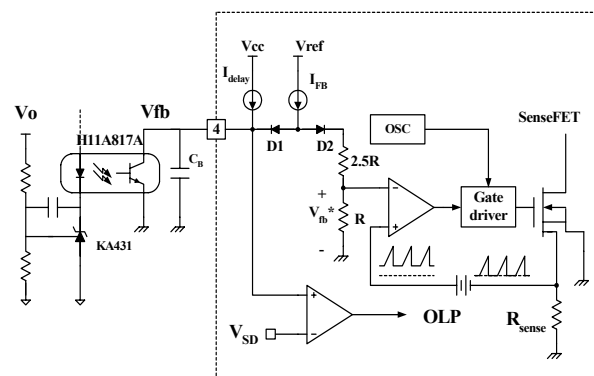

Figure 5. Pulse width modulation (PWM) circuit
2. Feedback Control : FSDM0565R employs current mode control, as shown in figure 5. An opto-coupler (such as the H11A817A) and shunt regulator (such as the KA431) are typically used to implement the feedback network. Comparing the feedback voltage with the voltage across the R_{sense} resistor plus an offset voltage makes it possible to control the switching duty cycle. When the reference pin voltage of the KA431 exceeds the internal reference voltage of 2.5V, the H11A817A LED current increases, thus pulling down the feedback voltage and reducing the duty cycle. This event typically happens when the input voltage is increased or the output load is decreased.
2.1 Pulse-by-pulse current limit: Because current mode control is employed, the peak current through the Sense FET is limited by the inverting input of PWM comparator (V_{fb}^*) as shown in figure 5. Assuming that the 0.9mA current source flows only through the internal resistor ($2.5R + R = 2.8 k\Omega$), the cathode voltage of diode D2 is about 2.5V. Since D1 is blocked when the feedback voltage (V_{fb}) exceeds 2.5V, the maximum voltage of the cathode of D2 is clamped at this voltage, thus clamping V_{fb}^* . Therefore, the peak value of the current through the Sense FET is limited.